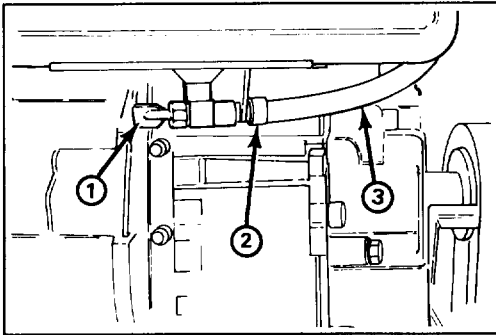

Figure 19
1. Close fuel shut-off valve located under engine (Fig. 19).
3. Loosen hose clamps securing fuel line to valve and slide line off valve (Fig. 19).